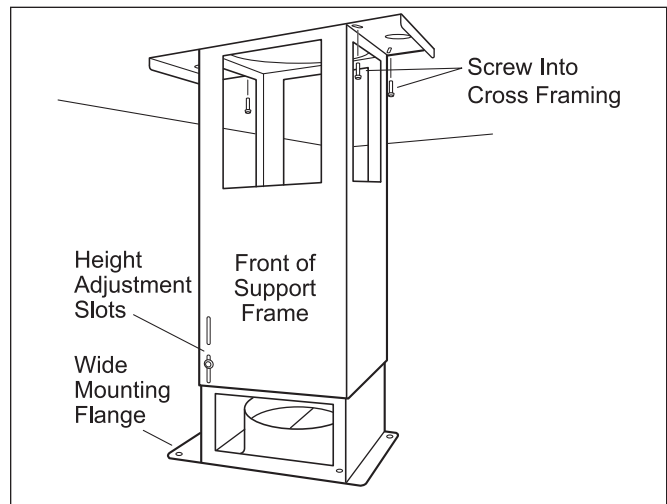
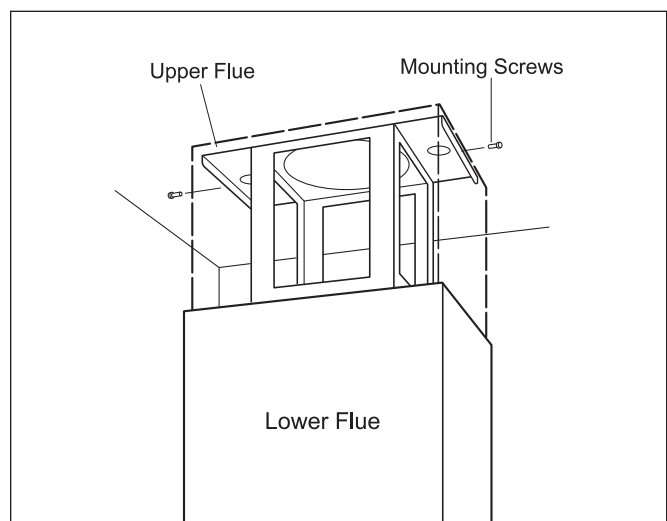

Figure 2-17 Support Frame
Figure 2-18 Upper Chimney Flue Mounting
4. Secure the upper half of the support frame to the joists and cross framing with four screws provided with your hood. Make sure that the screws are driven into the center of the joists and framing for maximum strength. (See Figure 2-17)
5. Adjust the overall height of the support frame. Loosen and retighten the screws in the height adjustment slots as necessary. (See Figure 2-17)
**NOTE:** The hood height is 11 1/4"(286) from the support frame attachment point. The bottom of the hood must be 24" (610) minimum and 30" (762) maximum from the countertop.
6. Secure the upper telescopic chimney flue section to the upper support frame. (See Figure 2-18)